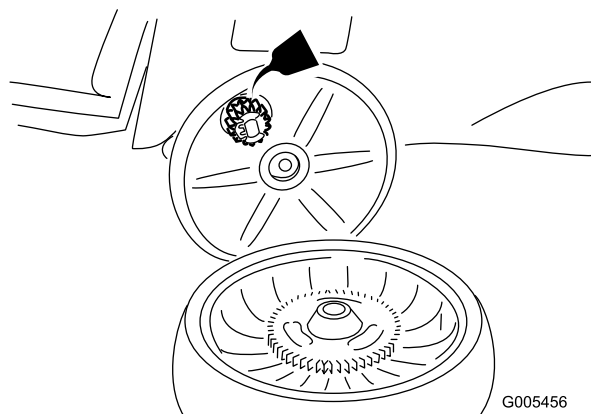

Figure 29
2. Apply a lubricating oil to the gear as shown in Figure 29.